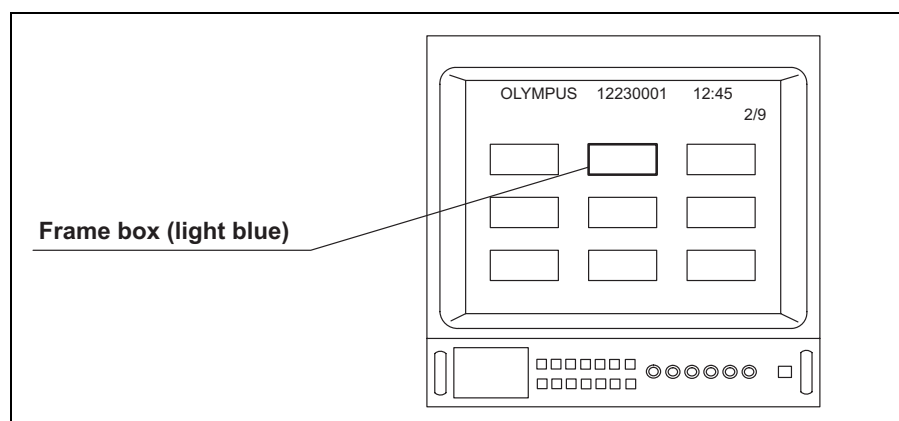

Figure 5.102
5. Depress the “Tab” key on the keyboard. Then, the frame box of selected image is turned light blue (see Figure 5.102).
Depending upon the images recorded on Memory Card, the menus shown in Figures 5.102 and/or 5.103 may appear different from those displayed on the video monitor.